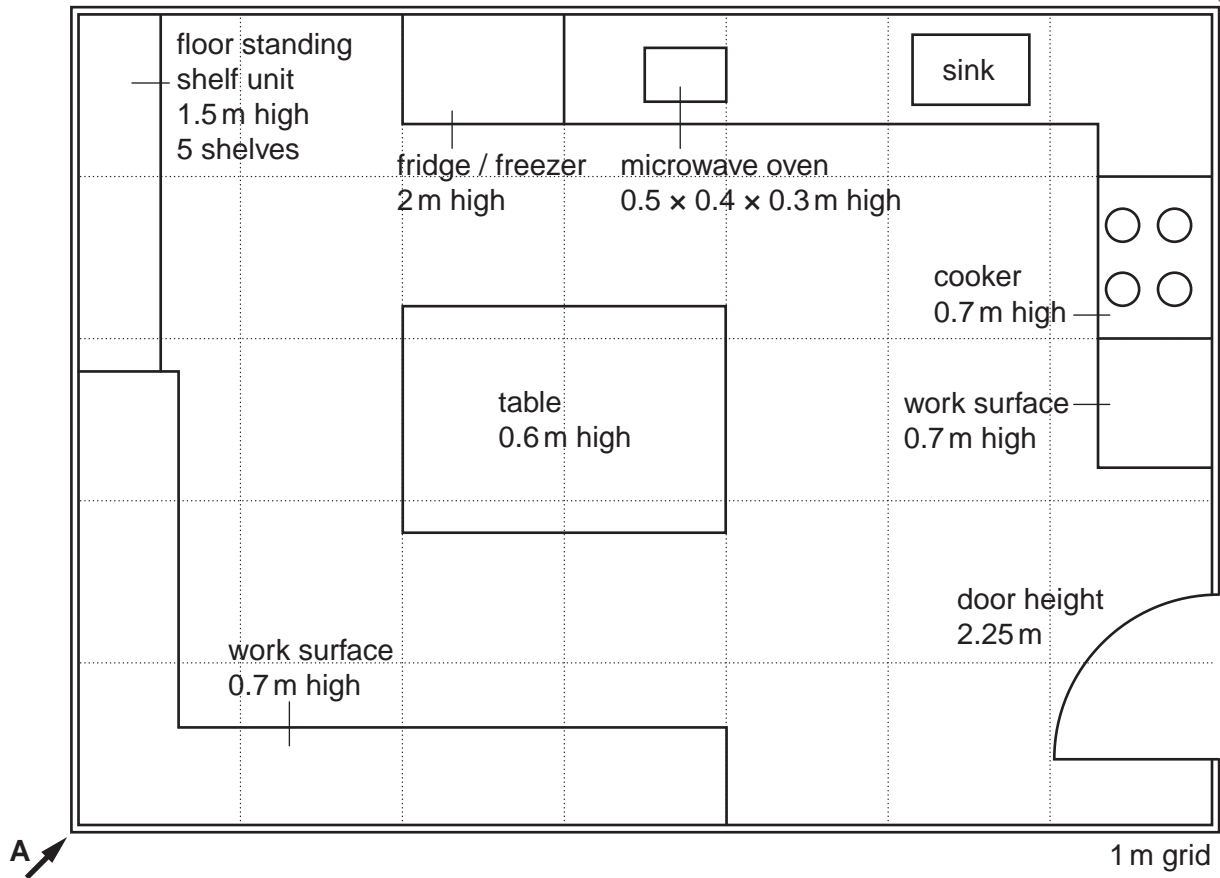

Fig. 6
- 7 Fig. 6 shows the plan of a staff common room.